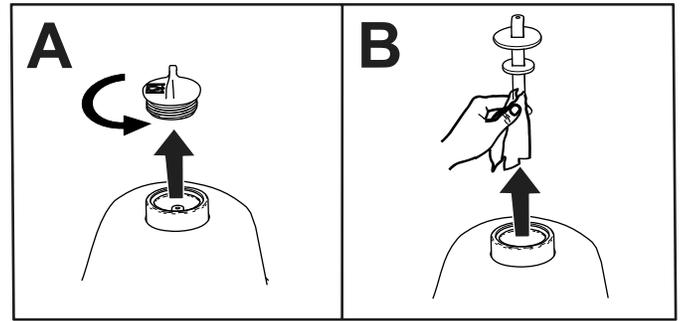

Figure 79
2. Remove the plug from the hydraulic tank (Figure 79).
3. Remove the dipstick from the hydraulic tank and wipe it with a clean cloth (Figure 79).